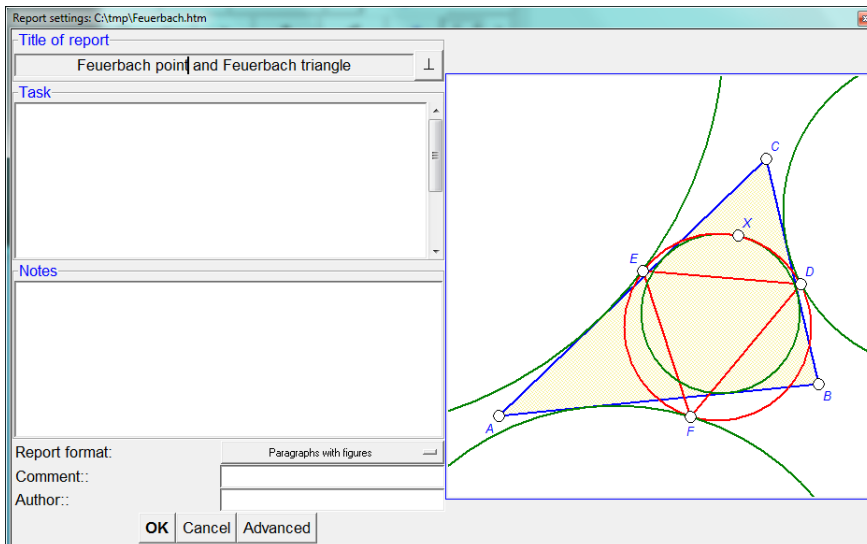

Figure 51
6. Probably some features in the obtained report will not be as desired (Figure 51): point labels will be perhaps too small, lines will be perhaps too thin, etc.